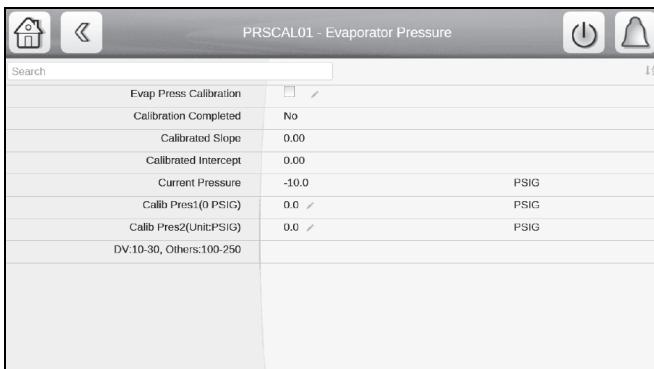

Fig. 43 – Evap Pressure Sensor Screen
2. Each transducer is supplied with 5 vdc from the IOB. Calibration is done by selecting the appropriate Pressure Sensor option on the Pressure Sensor Calib screen. The screen for the selected option is displayed. Figure 43 shows the Evap Pressure Sensor screen (PRSCAL01 as an example).